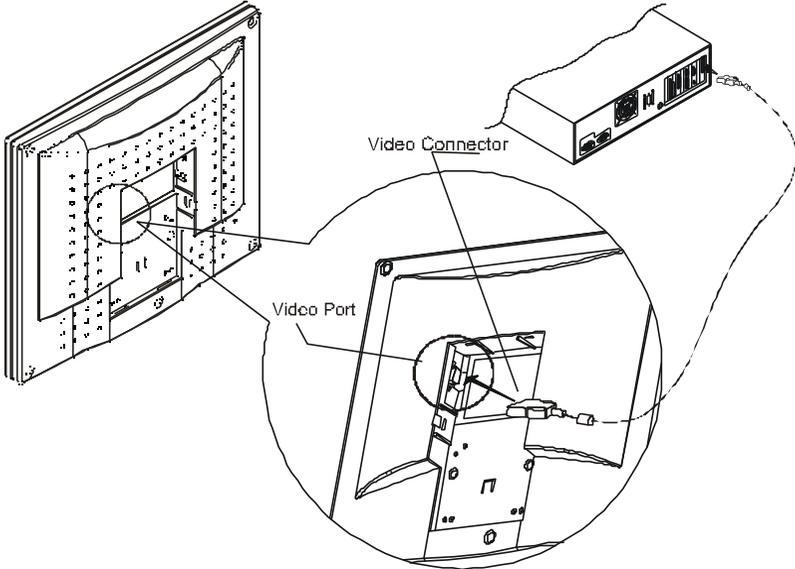

Figure 1-4
2. Connect one end of the signal cable to the LCD Monitor's VGA port. (See Fig. 1-4)